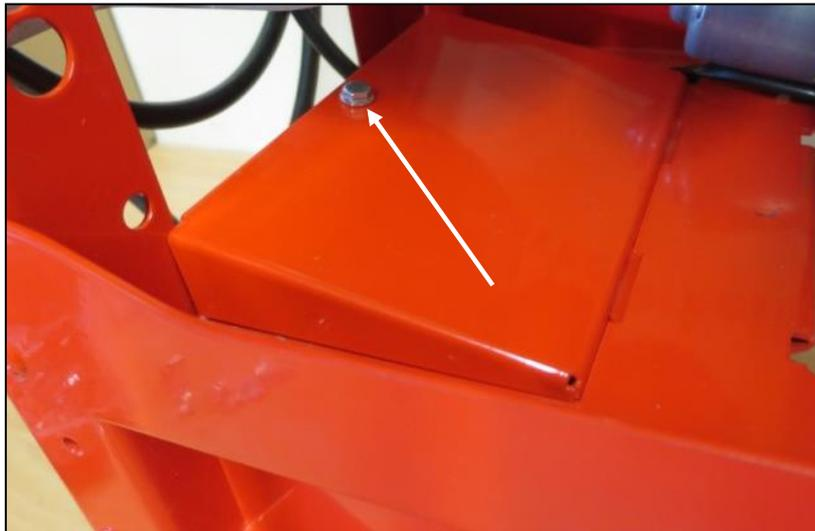

Fig.: 68
- For the electrical connection of the spreading plate motor, loosen the bolt marked in Fig.: 68 and remove the cover.